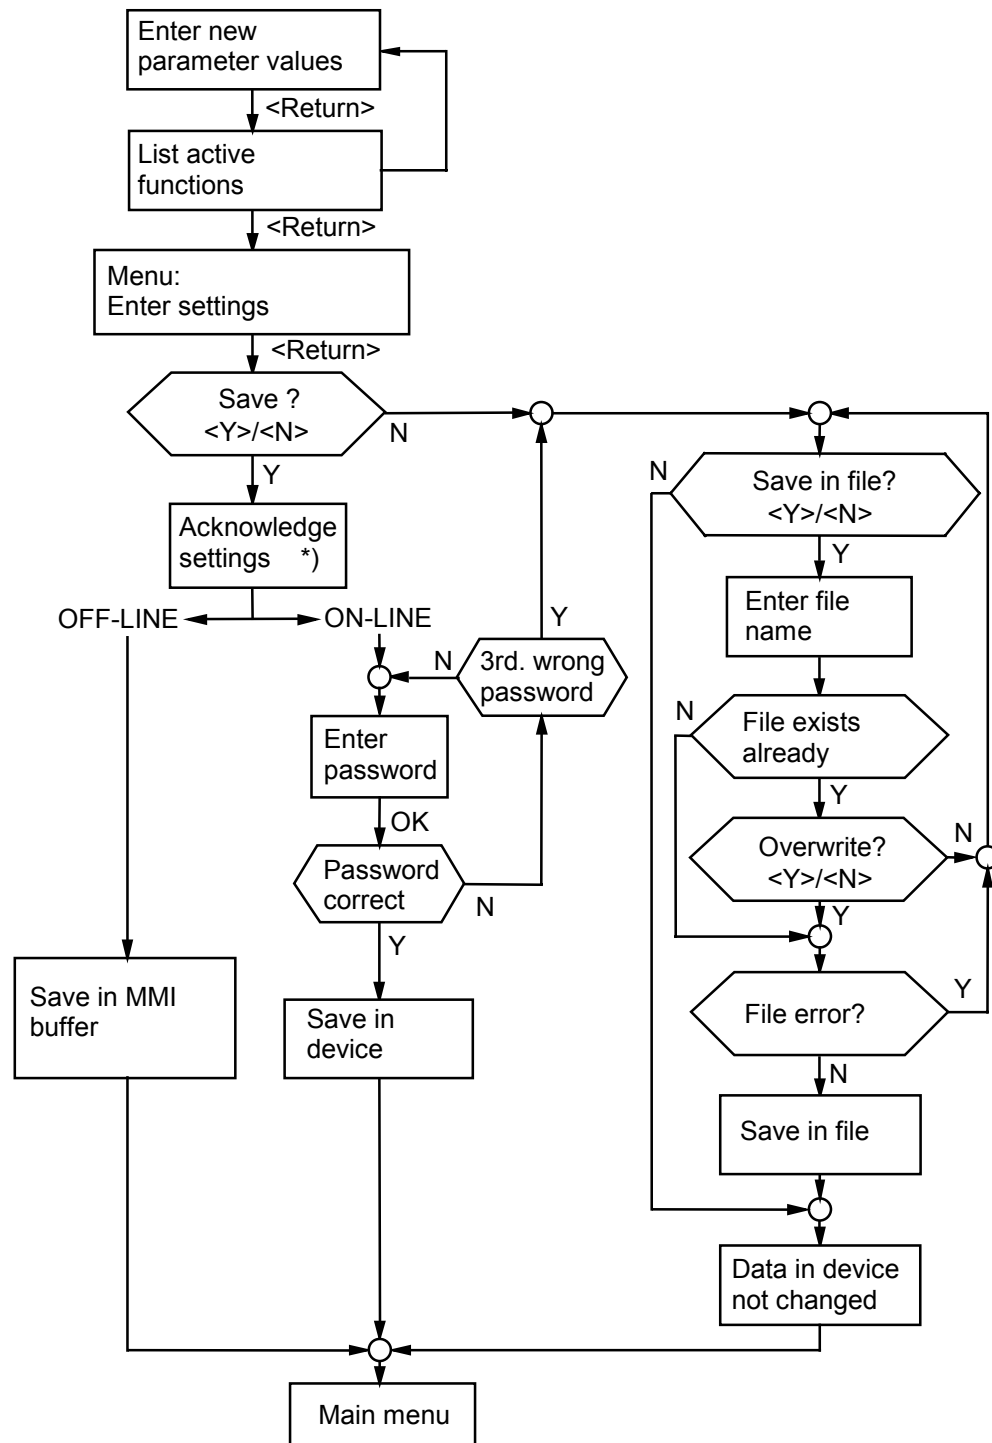

Fig. 5.33 Flow chart for saving the contents of the editor
The contents of the editor is downloaded to the device by repeatedly selecting the "RETURN" line in the editor window. The procedure can be seen from Fig. 5.33.
- repeatedly selecting "RETURN" as illustrated in Fig. 5.33.